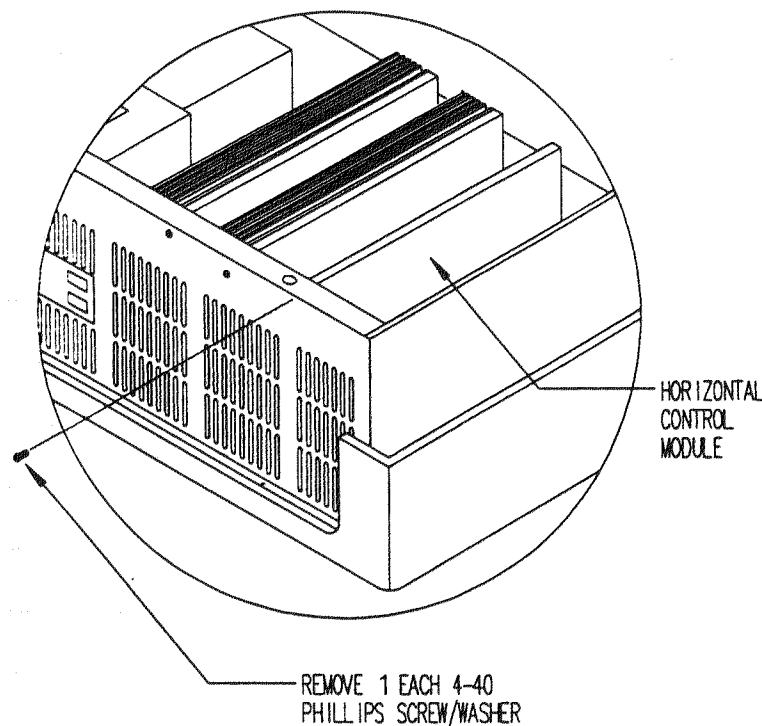

FIGURE 10-15. HORIZONTAL CONTROL MODULE REPLACEMENT.
- STEP 2. Remove the single 4-40 phillips screw and lockwasher securing the Horizontal Control Module to the rear panel. See Figure 10-15